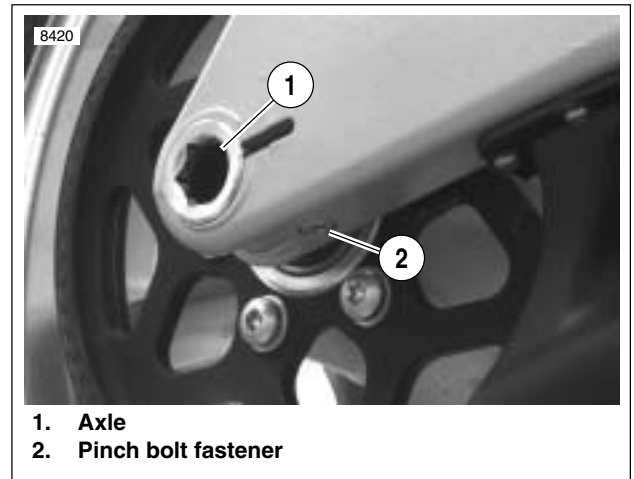

**Figure 6-98. Anti-Seize Lubricant Location**
14. See Figure 6-98. Coat the axle with ANTI-SEIZE LUBRICANT.